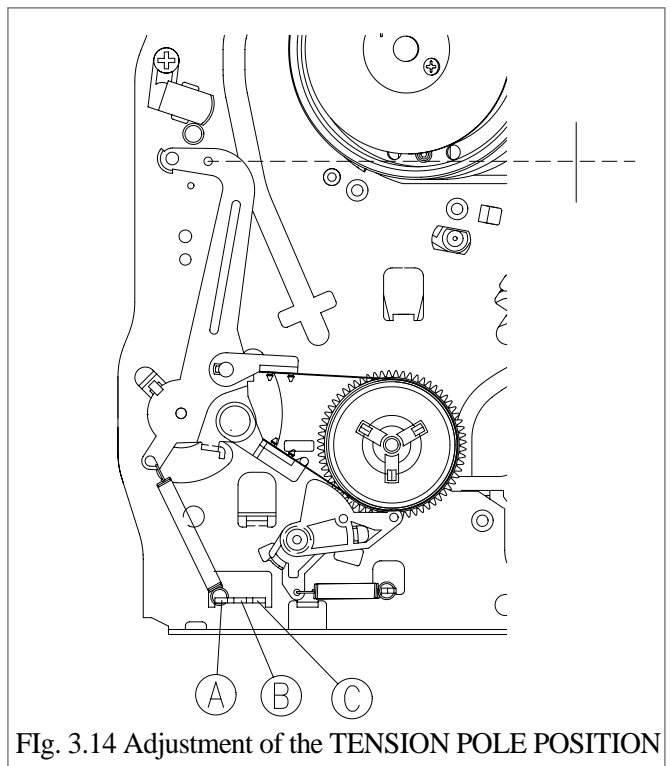

Fig. 3.14 Adjustment of the TENSION POLE POSITION
- After the assembly of TENSION BAND Ass'y on the mainbase, adjust the TENSION POLE location as shown in Fig. 3.14.
- Take care not to deform the MAINBASE HOOK "A" when separating the TENSION BAND Ass'y ③.
- Separate the CAPSTAN MOTOR ⑤ after the removal of 3 screws ④ holding the capstan motor.